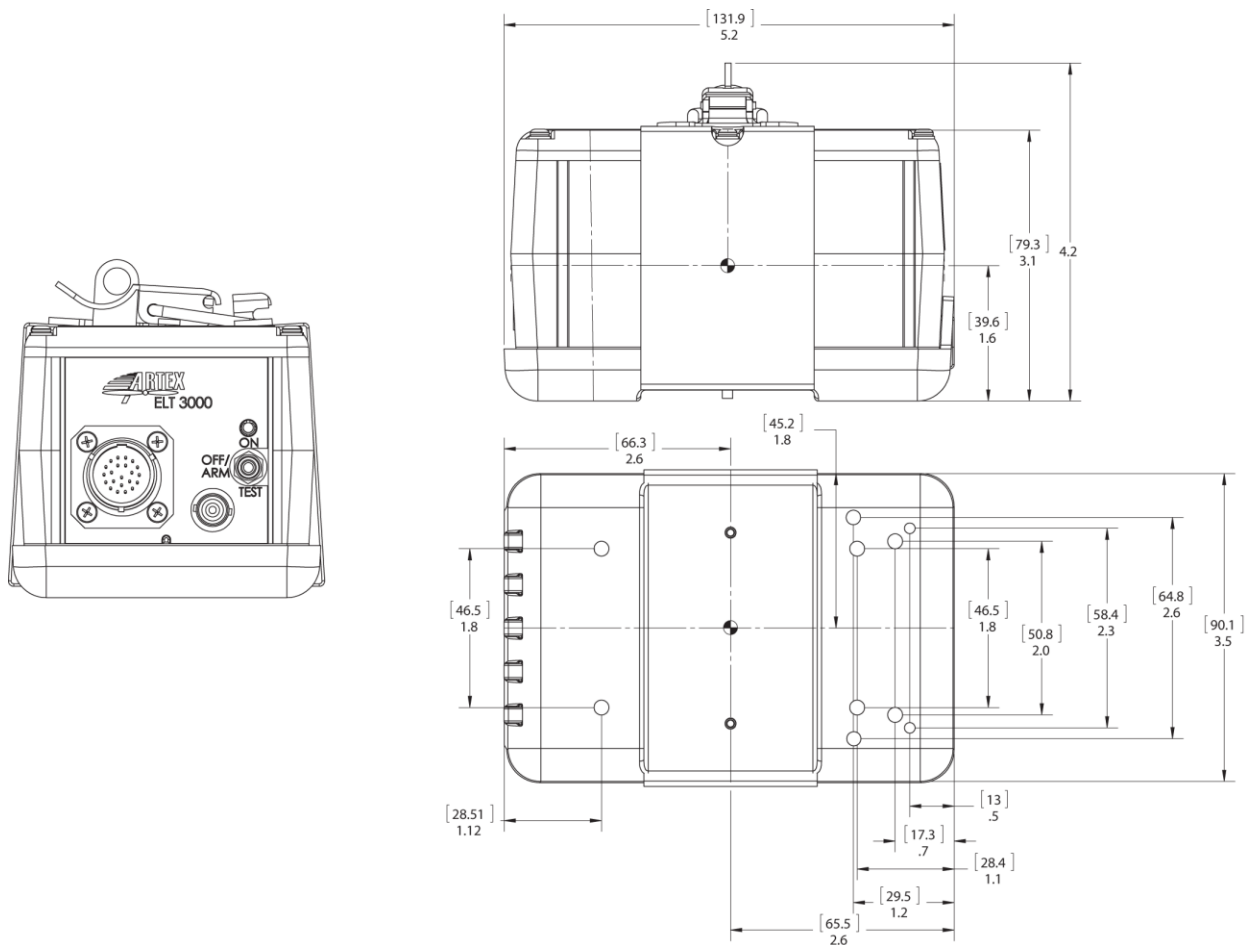
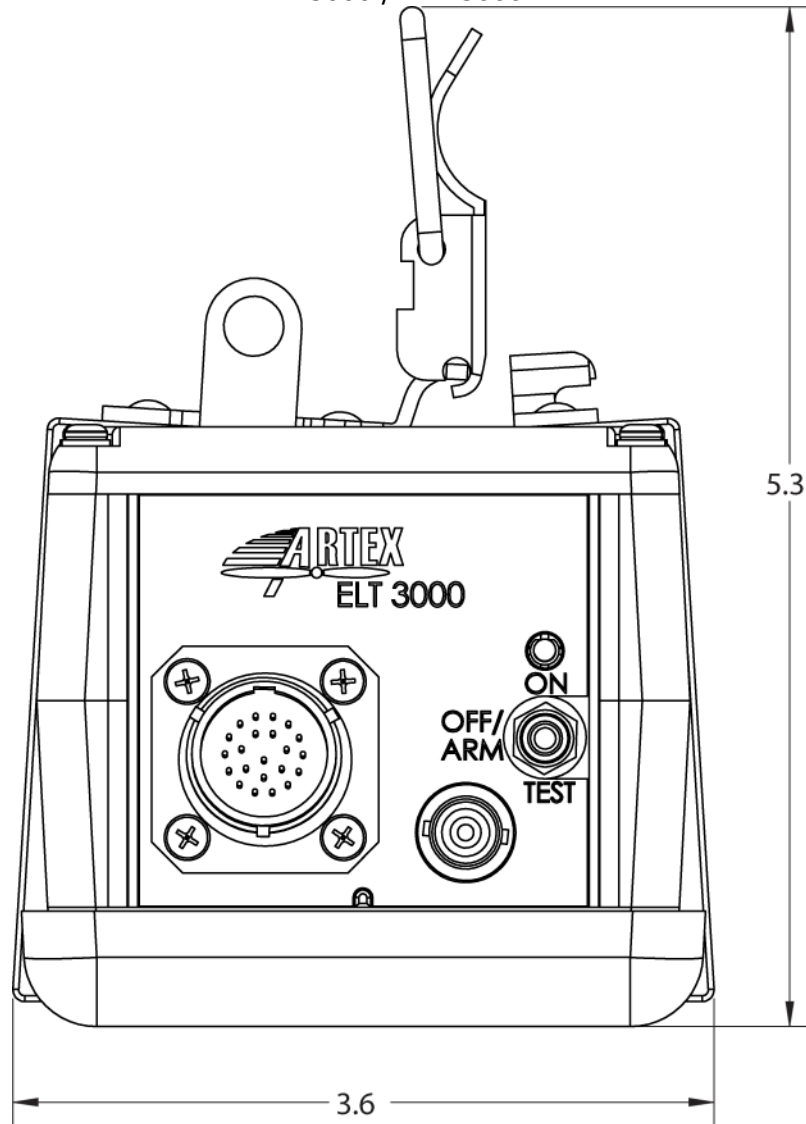

Figure 13 ARTEX ELT 3000 Outline & Dimensions
Figure 14 ELT 3000 Metal Strap Minimum Clearance Dimensions
- 1) Select a suitable location for the ELT mounting tray (see Figure 13 on page 49 and Figure 14 above).